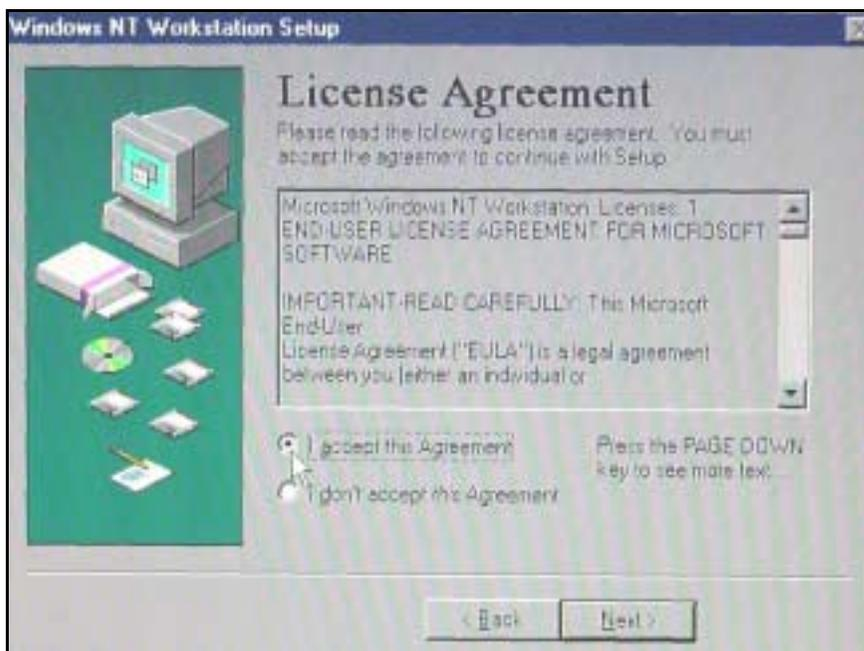

Figure 4-11 License Agreement screen
19. At "License Agreement" screen (see Figure 4-11) click on "I accept this Agreement", then click on *Next*.